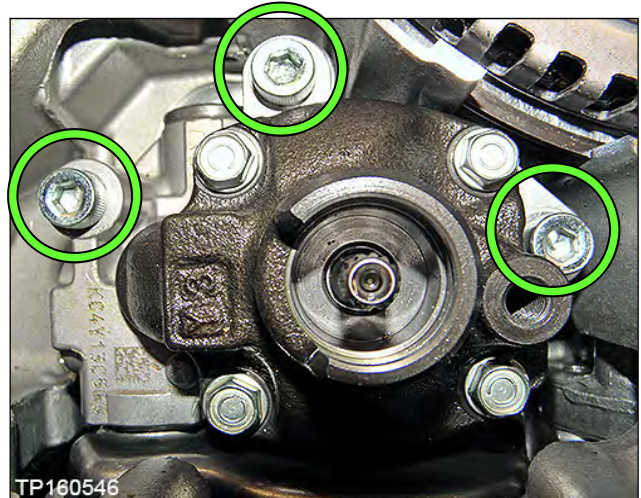

Figure 59
41. Install the new oil pump using three original Allen®-head bolts (Figure 59).